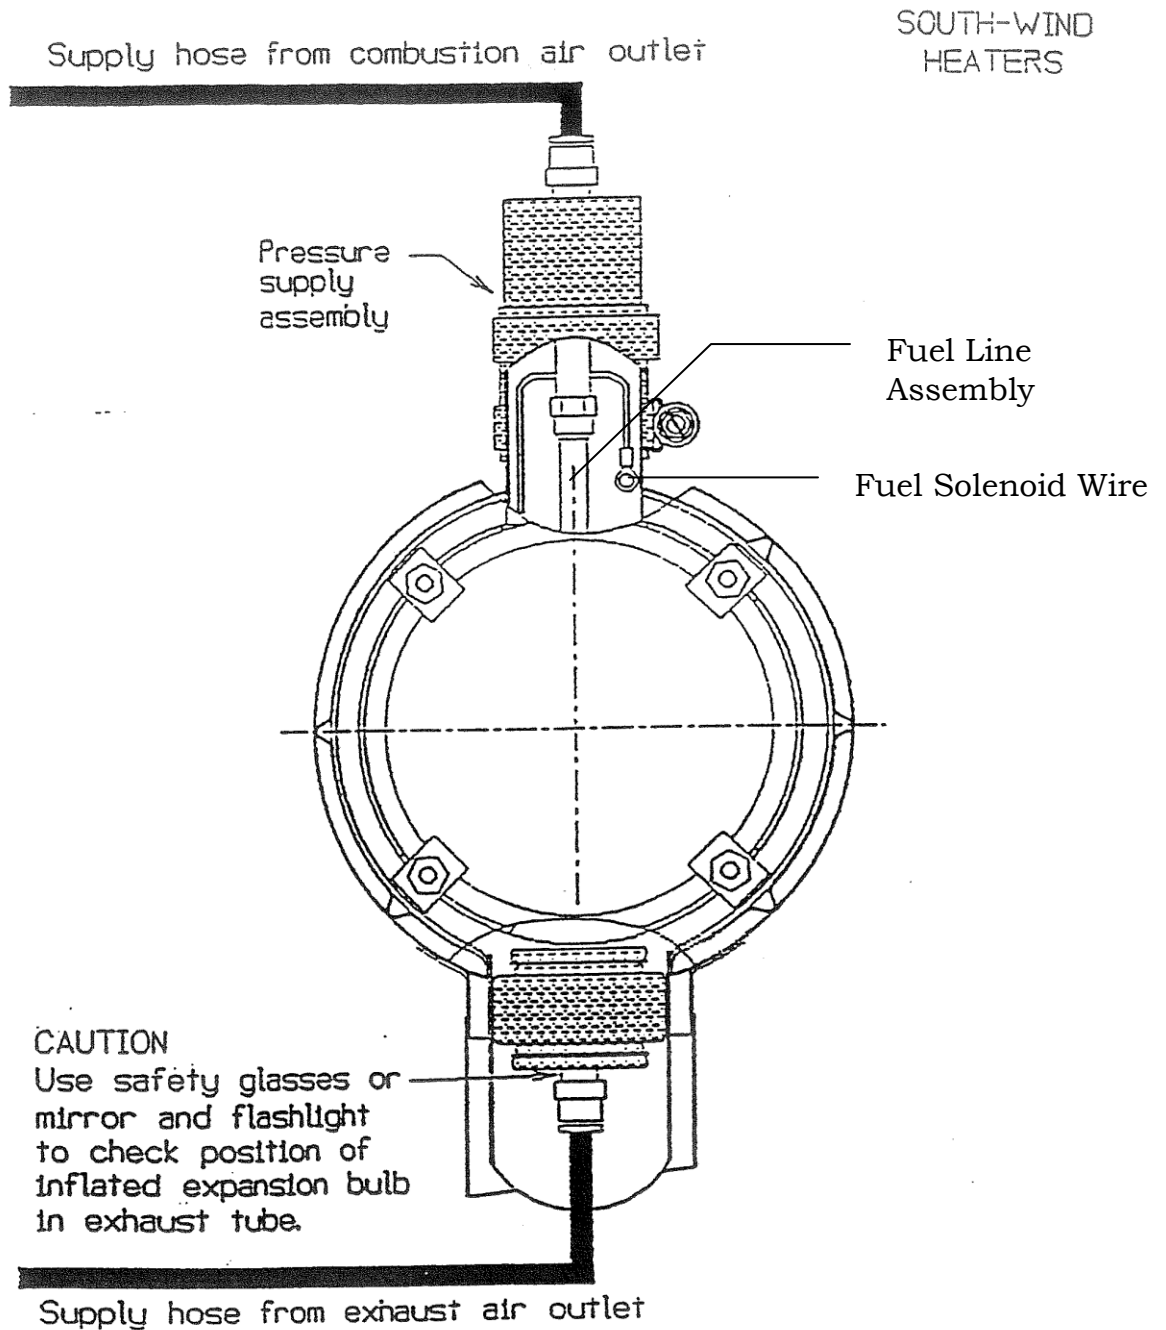

Fig. 4
- Install and tighten in place, the combustion air tube pressure supply assembly using hose clamps (See Table I for proper supply assembly). On some units, the solenoid electrical wire and fuel tube assembly are inserted in the combustion tube pressure supply assembly as shown in Fig. 4. Attach supply line as in Fig. 1-4.